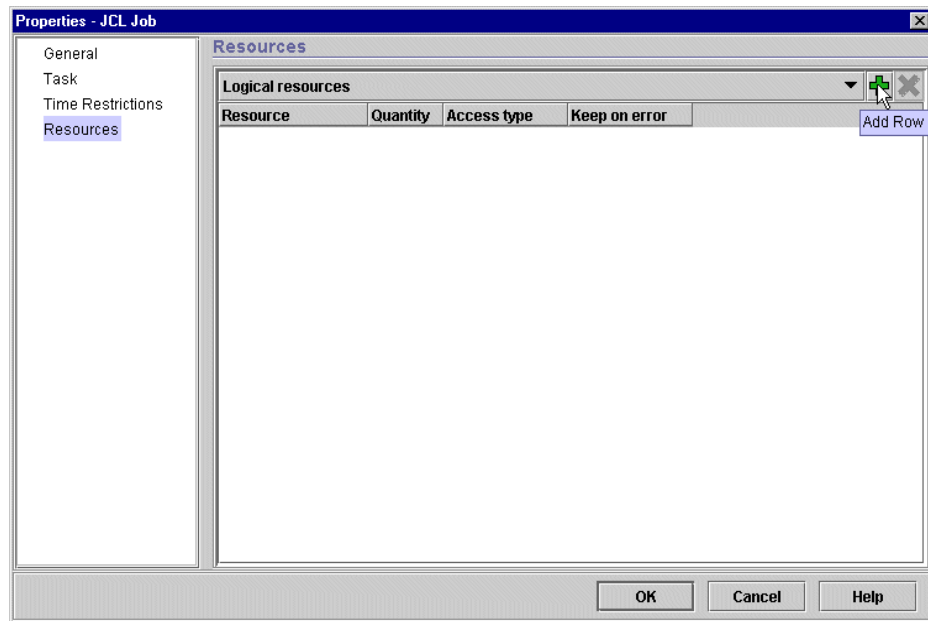

Figure 130. Adding a Logical Resource Dependency
5. Click the green cross on the logical resources panel to create a new resource dependency as shown in Figure 130 on page 216.